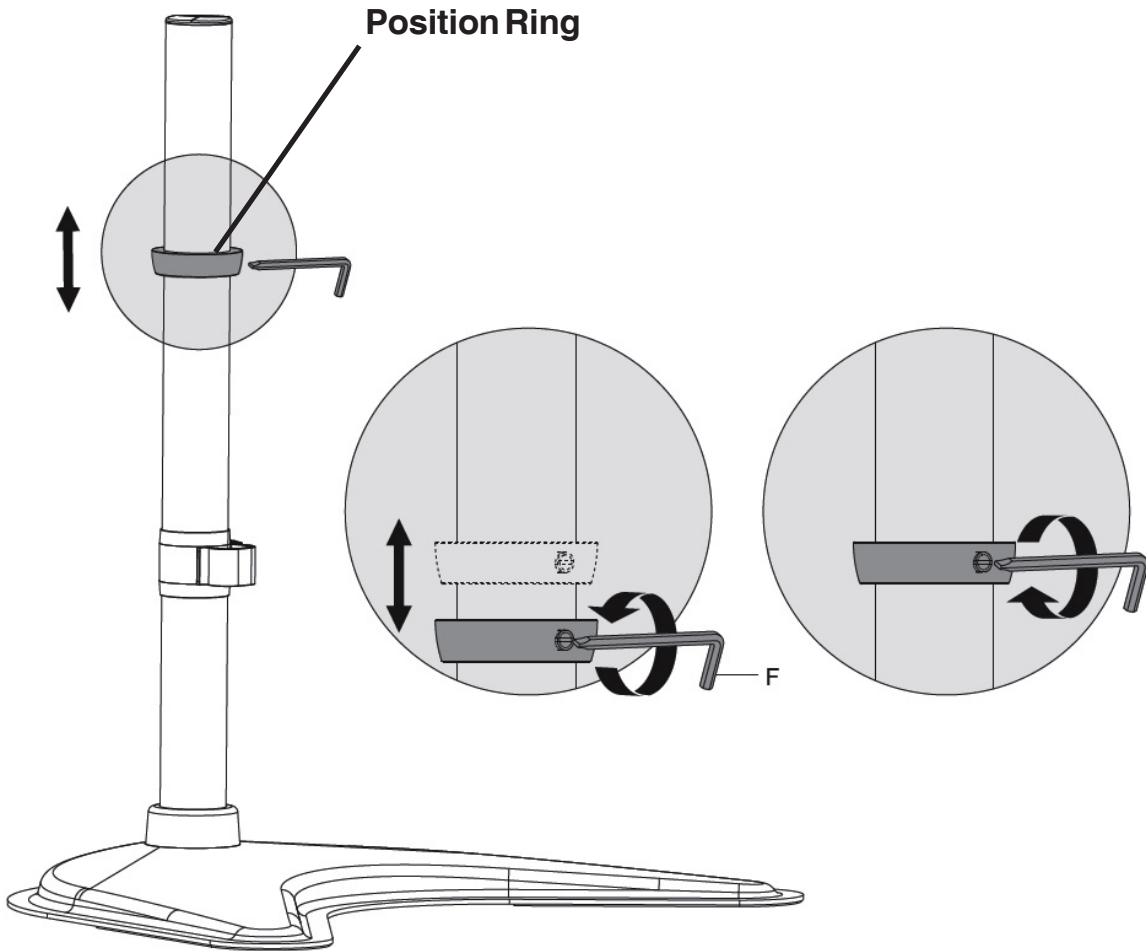

Figure 2A
1. Install the **Position Ring** at the desired height then secure it using the included **3mm Allen Key (F)** or a flat head screwdriver, as shown in **Figure 2A**.